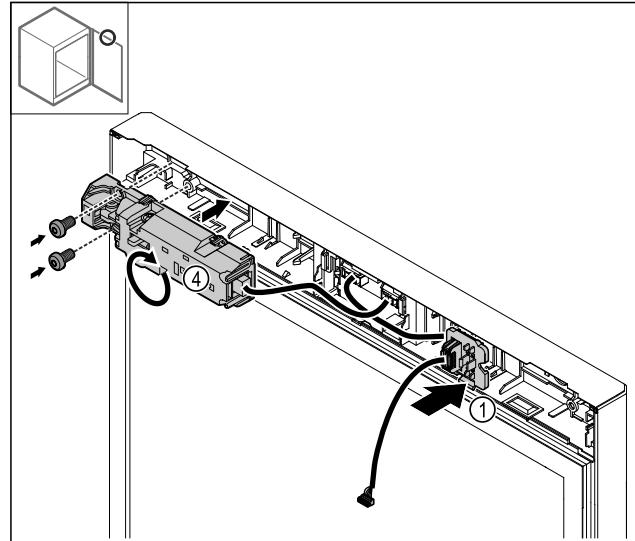

Fig. 29
- ▶ Engage the plug holder Fig. 29 (1) on the opposite side.
- ▶ Turn the electrical lock Fig. 29 (4) by 180° and attach on the opposite side.